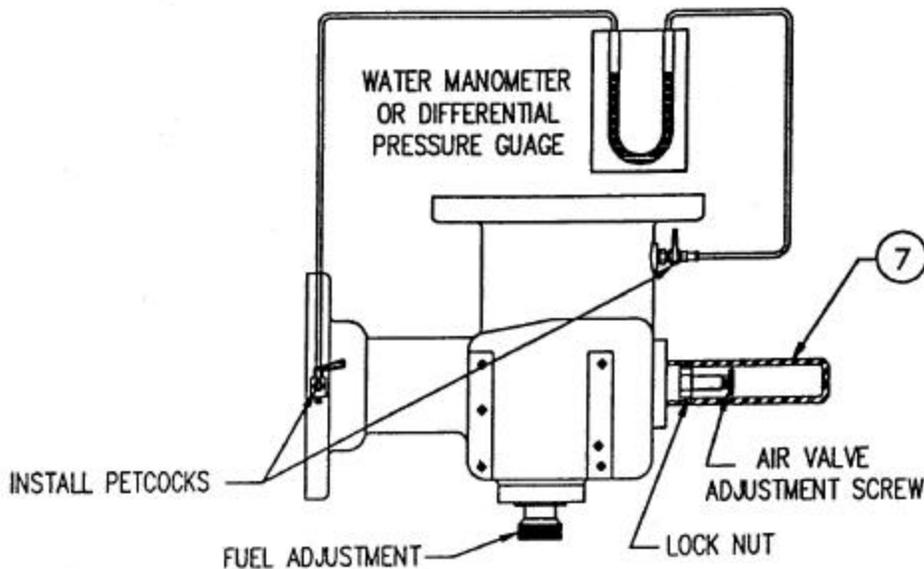

Figure 8 – Rating Adjustment Arrangement
3. Remove the air valve cover (Figure 8, Item 7) to expose the air valve adjustment screw. Loosen the jam nut to allow rotation of the adjustment screw.